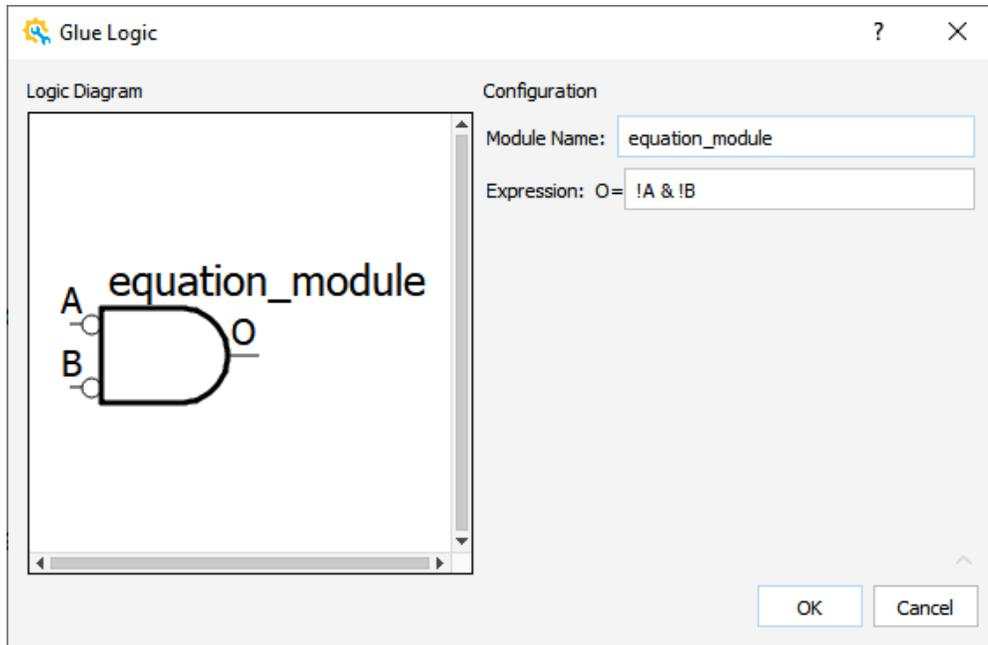

Figure 2.31. Glue Logic Wizard for Equation Module
1. From the IP Catalog, select the **equation** module. Double-click the equation module, or drag and drop the equation module to the Schematic view. A Glue Logic wizard (Figure 2.31) pops up.